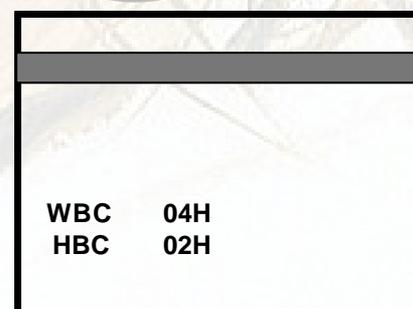

Fig.4-1 PAL CONVERGENCE
4. Press the [10] key of the jig remote control once and show the SCREEN adjustment screen. (Fig. 4-1)